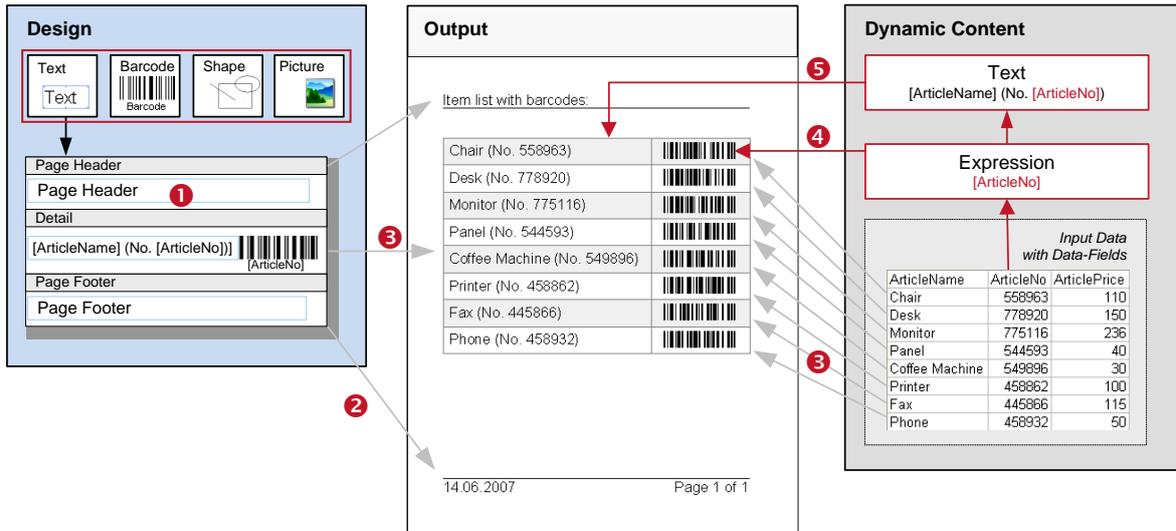

Figure 9: Printing Concept in Detail
A form layout uses different design elements like text elements, barcode elements, shapes and pictures which are placed on bands (see Figure 9, ❶).
When generating the output, each of the bands will be rendered repeatedly: Usually a *detail band* is rendered for each single record (see Figure 9, ❸) of the data-source. The *page header* and the *page footer* are rendered at the top respectively bottom of each page automatically (see Figure 9, ❷).